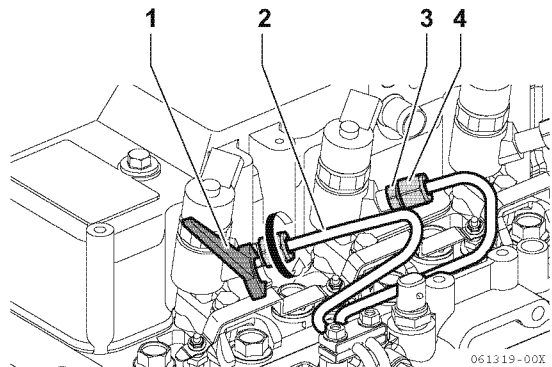

Figure 7-8
- 2- Loosen the cap nut (4, **Figure 7-8**) of the high-pressure pipe (2, **Figure 7-8**) on the injector side. Here, loosen the cap nut held with a spanner (1, **Figure 7-8**) or the like to prevent the inlet connector (3, **Figure 7-8**) from rotating together.